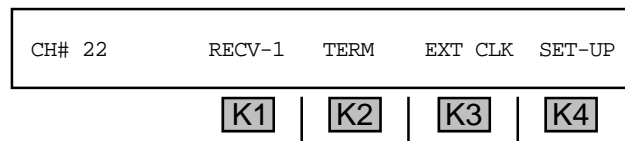

**Figure 4-3**
- Connect the test cords as shown in **Figure 4-3**: